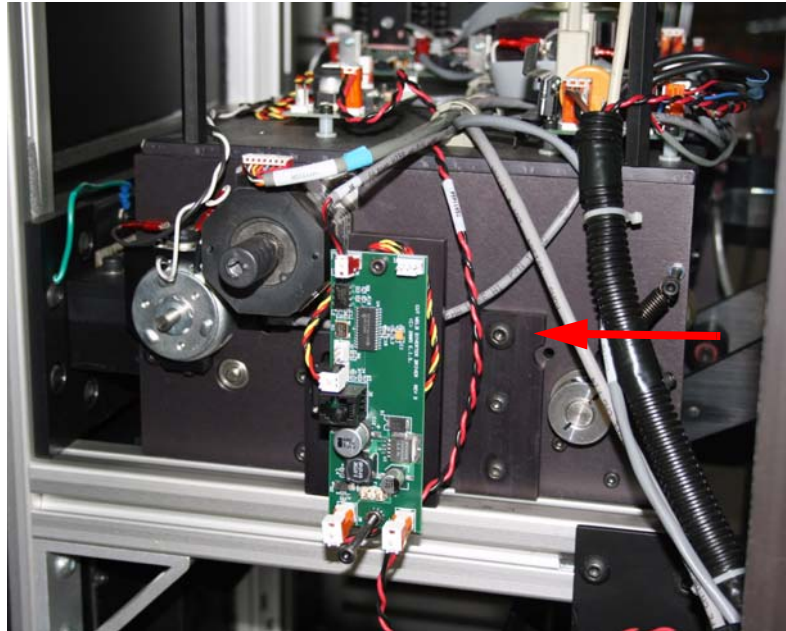

Figure 4. Remove the two M8 screws.
6. Remove the M8 screw from the blue side (back) of the Cut Weld Assembly. Figure 4.